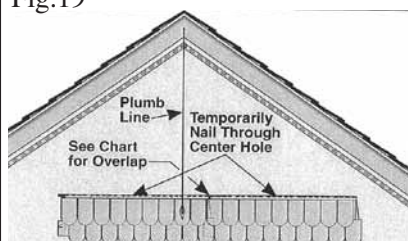

Fig. 20
a. For symmetrical appearance at peak, position and lock full panel in the first course with Round Cuts at center of the gable (see Figure 20).
d. Use template and cut at mark. If needed for secure installation, move the mark an equal distance (X on Figure 20) from any Alignment Line.